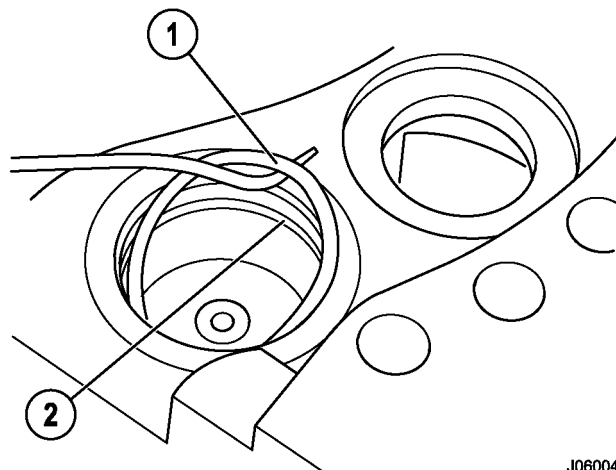

FIGURE 50-45. SERVICE PISTON O-RINGS
- 21. Use a suitable tool to remove 76.2 mm (3 in.) diameter O-ring (1, Figure 50-45) and backup ring (2) from each piston bore groove. Discard the O-rings and backup rings.